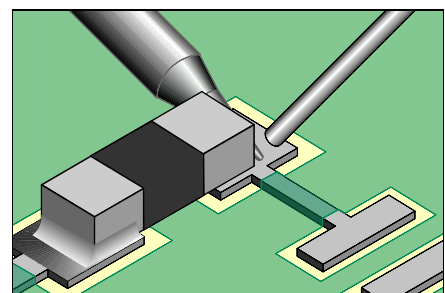

Figure 3: Solder the other opposite side of the component.
7. Remove the tip. Wait a moment for the solder to solidify before soldering the other side of the component. (See Figure 3).